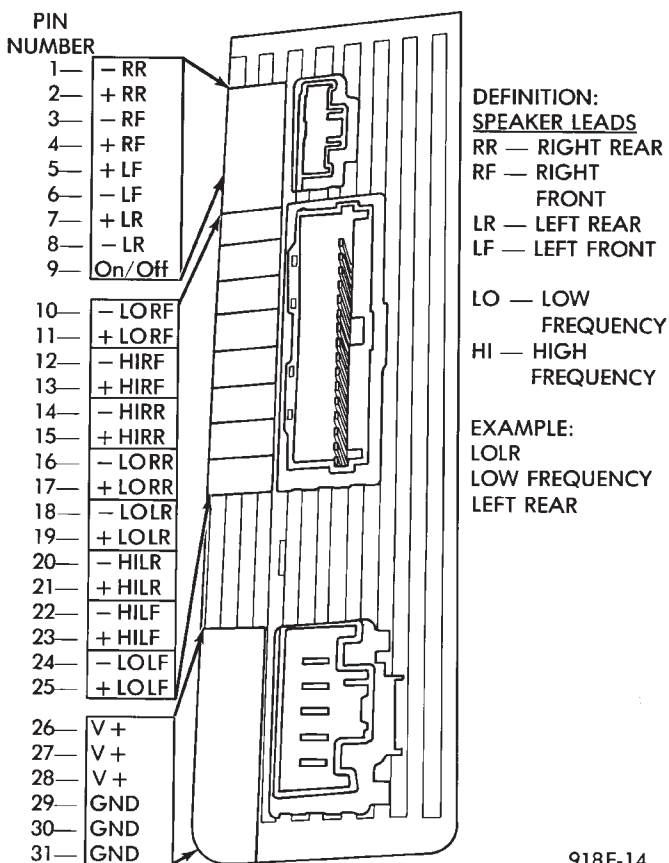

Fig. 15 Amplifier
When the radio system is ON, and all or some speakers are not operating or have a noise distortion refer to the diagnostic tests. The amplifier has the pin connections list on the case (Fig. 15).
- Remove output signal connector from amplifier and check for short to ground on the speaker with the distortion. Refer to Fig. 15 for the appropriate
- Remove output signal connector from amplifier and check for two to five ohms resistance to the non-operative speaker. Refer to Fig. 15 for the appropriate pin numbers.